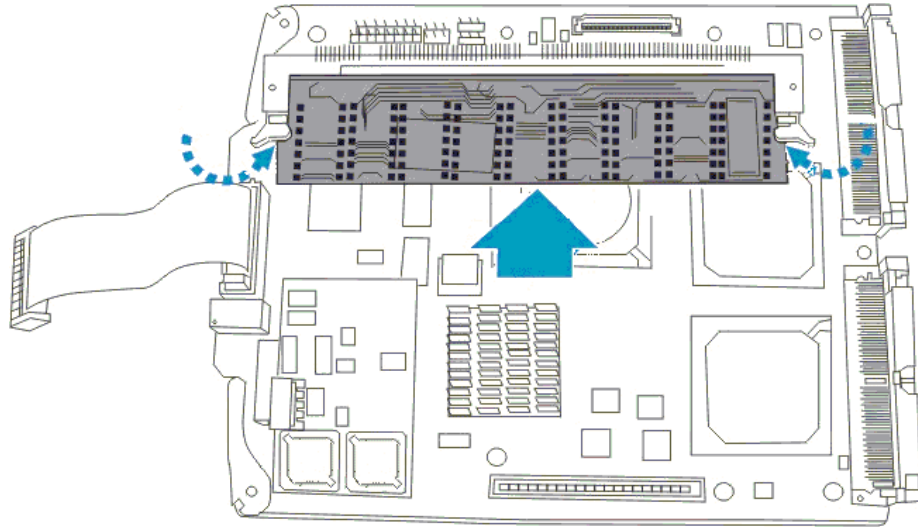

Figure 0-2: Install DIMM Module
Step 5. Insert the new DIMM module – Once the old DIMM module has been removed the replacement DIMM module can be installed. To install the replacement DIMM module align it with the DIMM slot. Next, gently push the new DIMM module into the DIMM socket. The white clips on either side of the DIMM socket will automatically close and lock the new DIMM module into place. See *Figure 0-2*.